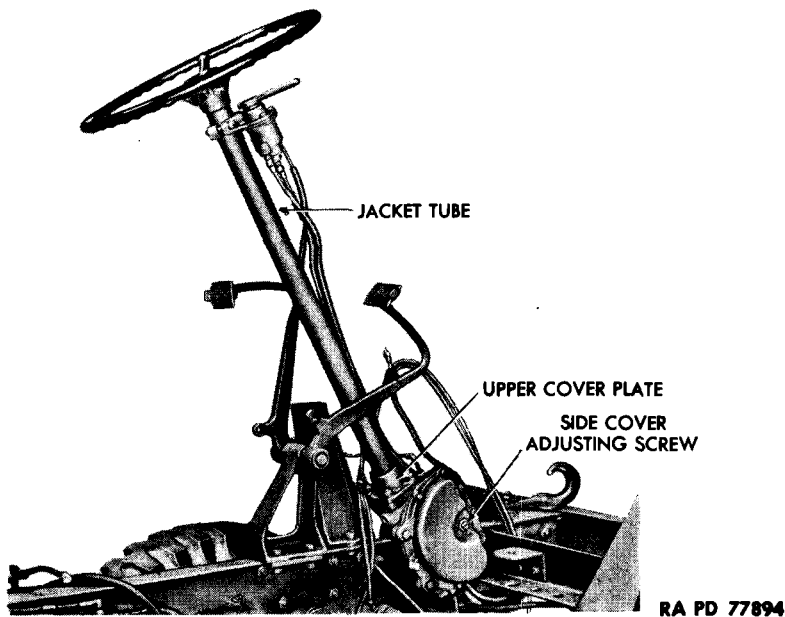

Figure 87 - Steering Gear Installed
a. Description (figs. 87 and 89). The steering gear is attached to the frame side rail at front left-hand side of vehicle, extending from the steering arm attached to left front wheel assembly through the steering gear housing to the steering wheel in the cab. The gear is the roller-mounted twin-lever type. The turning action of the steering wheel is relayed to the steering arm through a cam engaged to two studs mounted in tapered roller bearings on the lever shaft.
a. Maintenance (figs. 87 and 89). Check the drag link regularly for excess slack or end play. Check steering jacket tube assembly for end play by attempting to move it back and forth on its axis. Keep steering gear housing filled with proper lubricant.
(1) **ADJUST JACKET TUBE VERTICAL END PLAY** (fig. 87). Disconnect steering arm from drag link (par. 143). Loosen dash bracket clamp to prevent drag from hindering adjustment. Loosen side cover adjusting screw lock nut and side cover adjusting screw at right-hand side of housing. Remove the four nuts and lock washers which secure upper cover plate to housing. Slide cover plate up, and remove one of
(2) **ADJUST LEVER SHAFT END PLAY** (fig. 87). Turn wheels straight ahead, placing studs in cam groove at midposition of travel. Tighten side cover adjusting screw until a very slight drag is felt through the midposition. Tighten adjusting screw lock nut, and recheck drag after lock nut is tight.